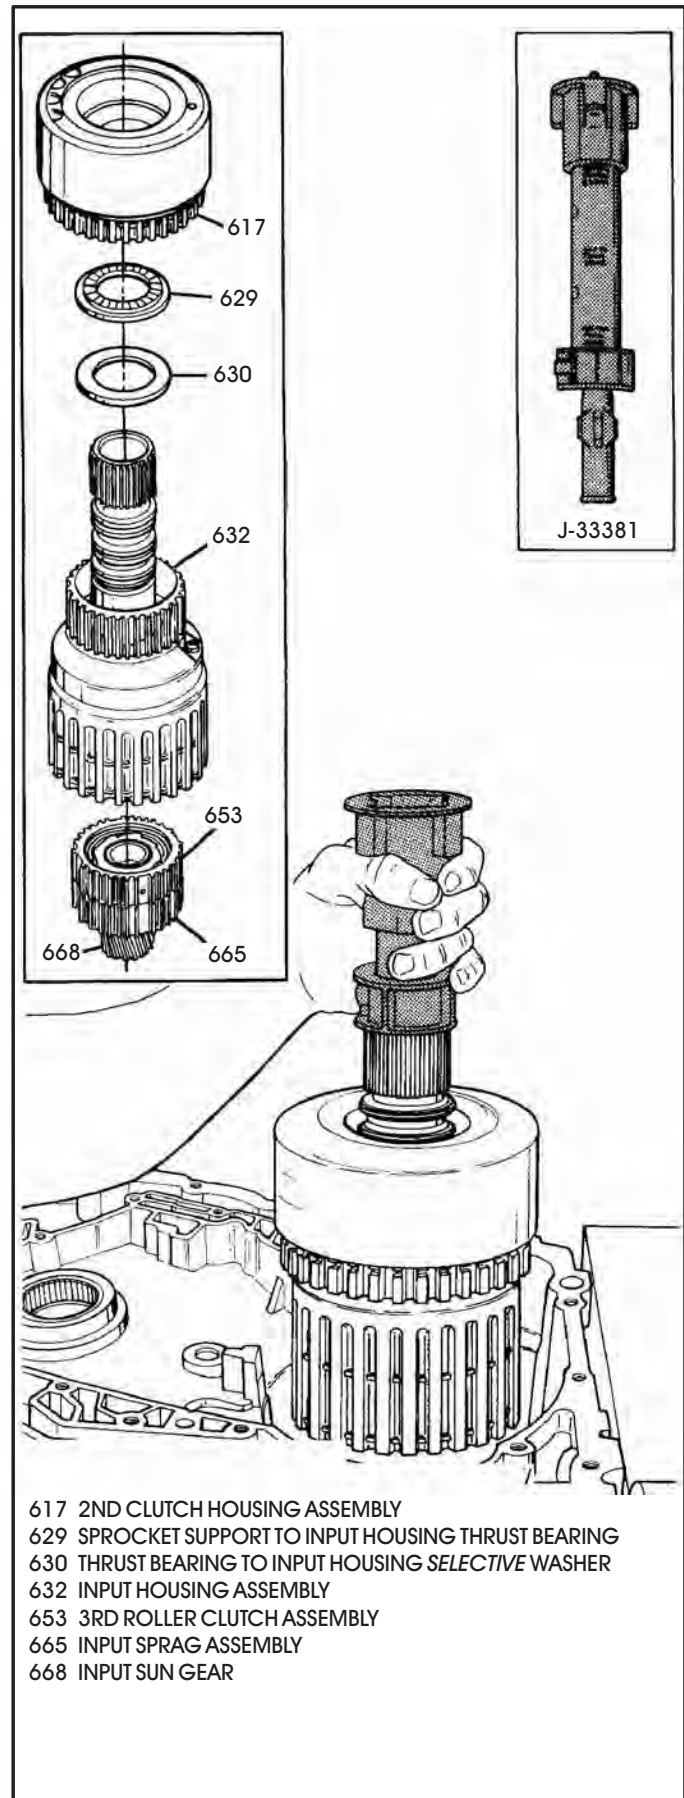

Figure 180
31. Install tool J-33381, as shown in Figure 180, in the input and 2nd drum assembly and tighten the adjusting screw on top.
32. Lift the complete assembly and install into the transaxle by rotating into position, as shown in Figure 180.